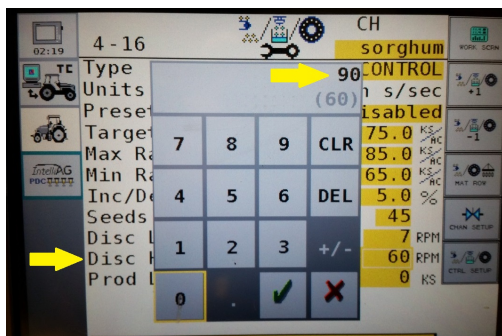

Figure 18
Step 13. Select **Disc High Limit** and enter. (Figure 18) This is an alarm setting when meter shaft goes above setting. The factory default is 60 RPM; this could be set at 90 RPM.